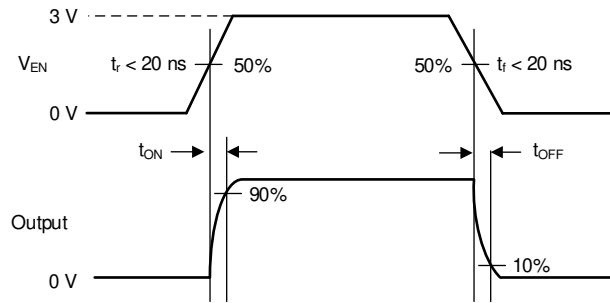

Figure 4-12. Turn-ON (t_{ON}) and Turn-OFF (t_{OFF}) Time
- **Turn ON (t_{ON}) / Turn OFF (t_{OFF}) Time:** The time required for a switch path to be internally changed to an ON or OFF state. These parameters determine how quickly the switch can respond to a desired ON or OFF state (See Figure 4-12). In general, switch enable and disable times are not symmetrical. This is not usually an issue, as few applications require high control (enable) signal frequencies. See more details on switch timing characteristics in Switches and muxes: What are timing characteristics?.